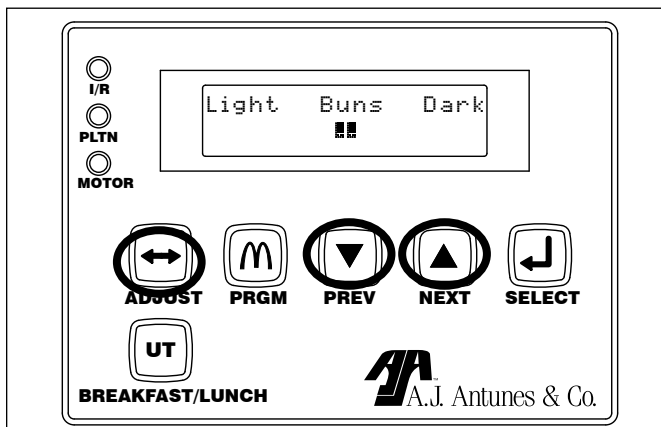

Figure 7. Adjusting Toasting Quality
16. Once outside of Program mode, press the **ADJUST** button (Figure 7).
17. Use the **PREV** and **NEXT** buttons to bring the toasting quality indicator into the center of the range (Figure 7).
NOTE: Two bars will be lit when the adjustment is in the center (Figure 7).